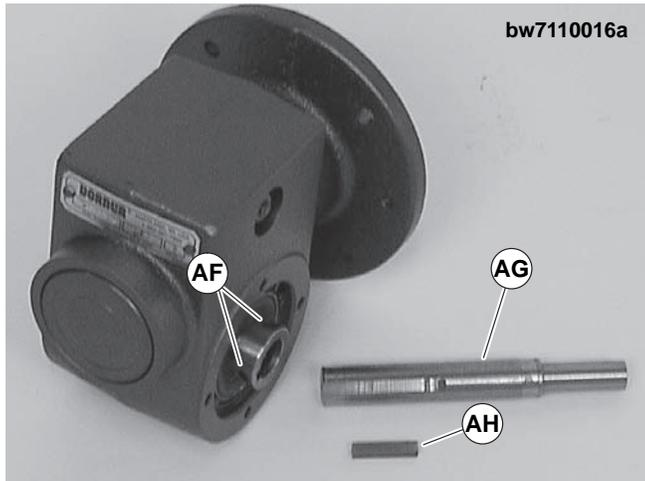

Figure 23
- Loosen six (6) set screws (Figure 23, item AF). Remove drive shaft (AG) and key (AH).
- Replace the original shaft components into new gear reducer (see Figure 23). Tighten set screws (AF) to 26 in-lb (3 N-m).